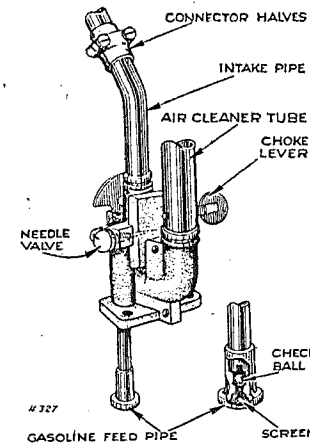

Fig. 2.
28. If the motor will run after the cylinder has been primed with gasoline, but will not run otherwise, it is possible that the gas pipe from the base to the carburetor is stopped up. Disconnect the intake pipe connector halves from the intake pipes (see figure 2) and unscrew the carburetor from the base. Remove the gasoline feed pipe from the carburetor noting particularly the length of the pipe before loosening the lock nut so that the pipe can be properly assembled back to the carburetor. Wash out the screen in gasoline and blow thru' the screen end of the pipe. The check ball as shown in figure 2 prevents air from passing thru' when blown from the opposite end.